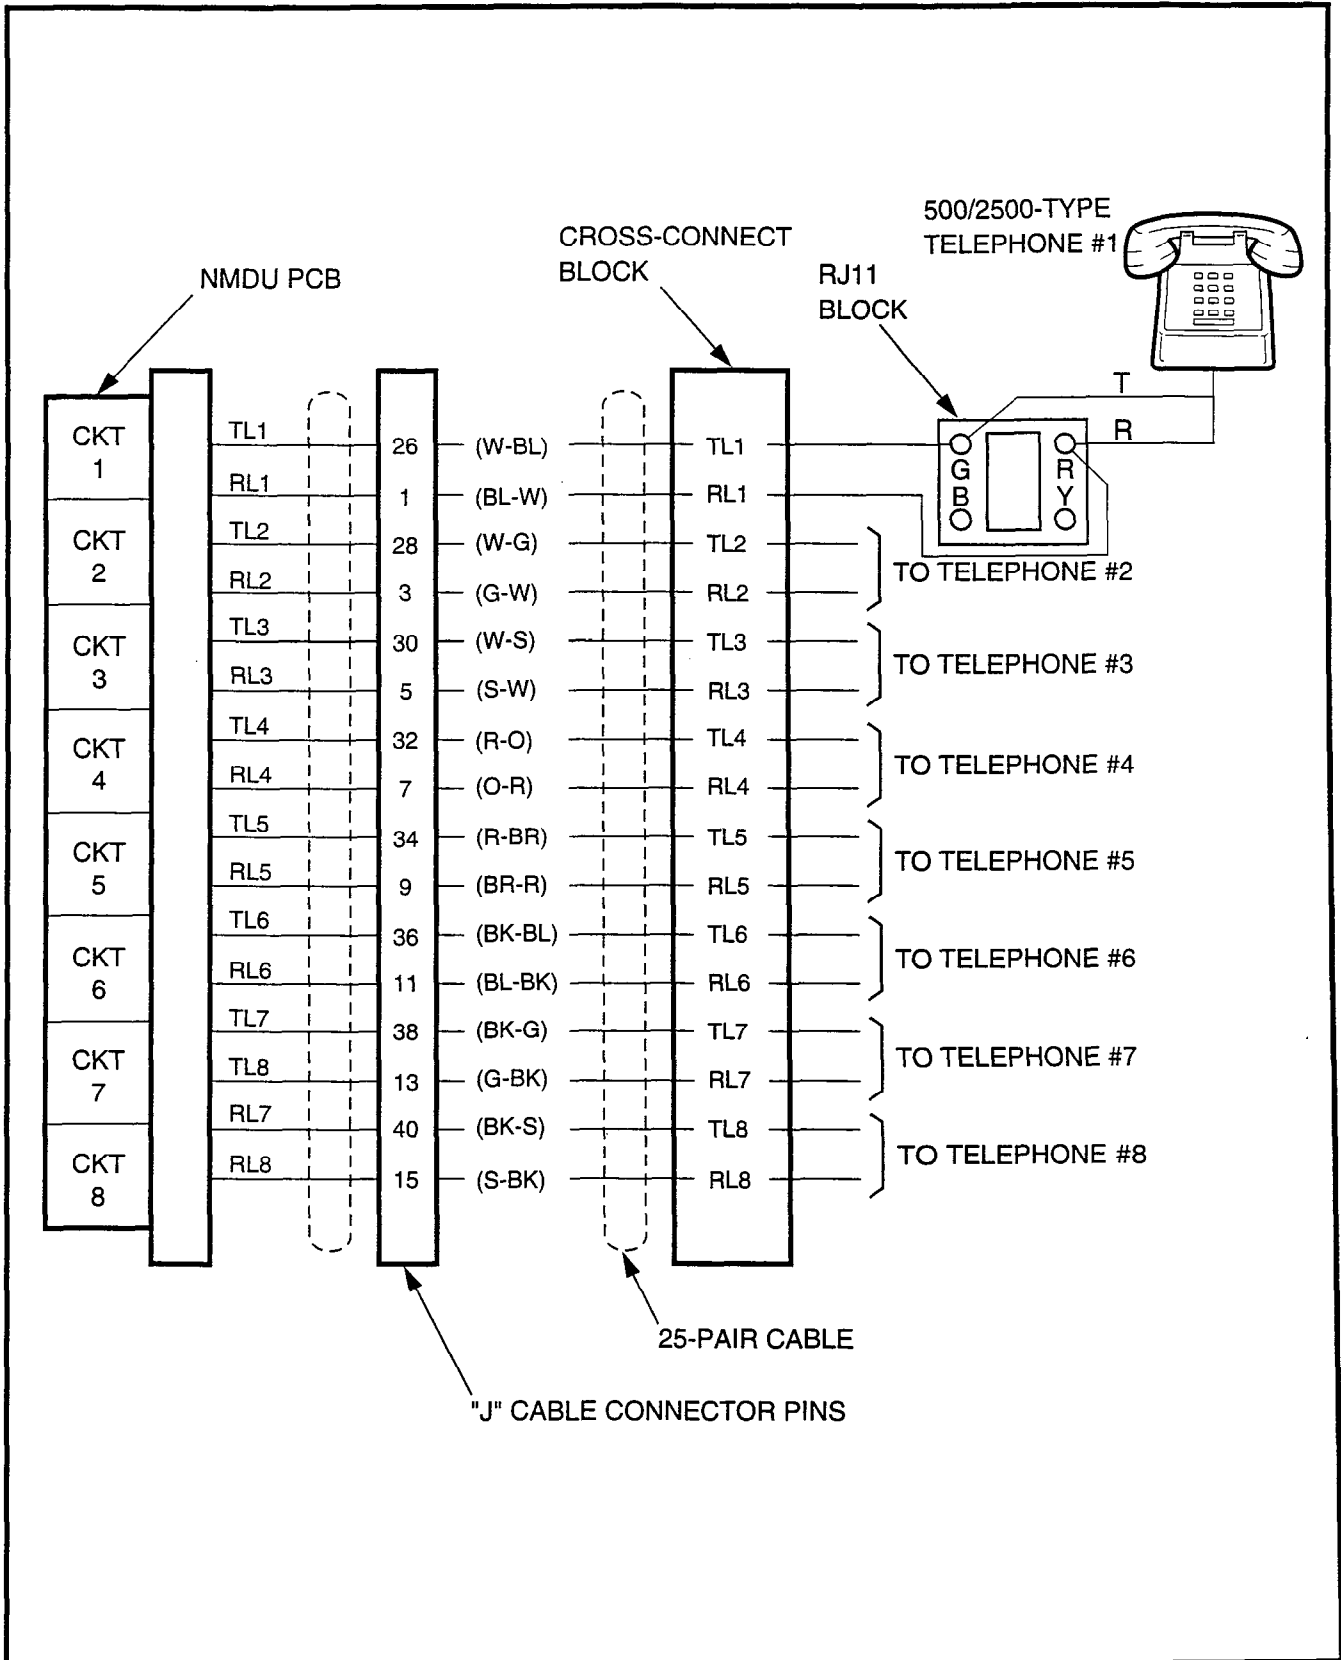

FIGURE 4-66—STANDARD TELEPHONE CONNECTION
7.03 Standard telephone connection details are shown in Figure 4-66.